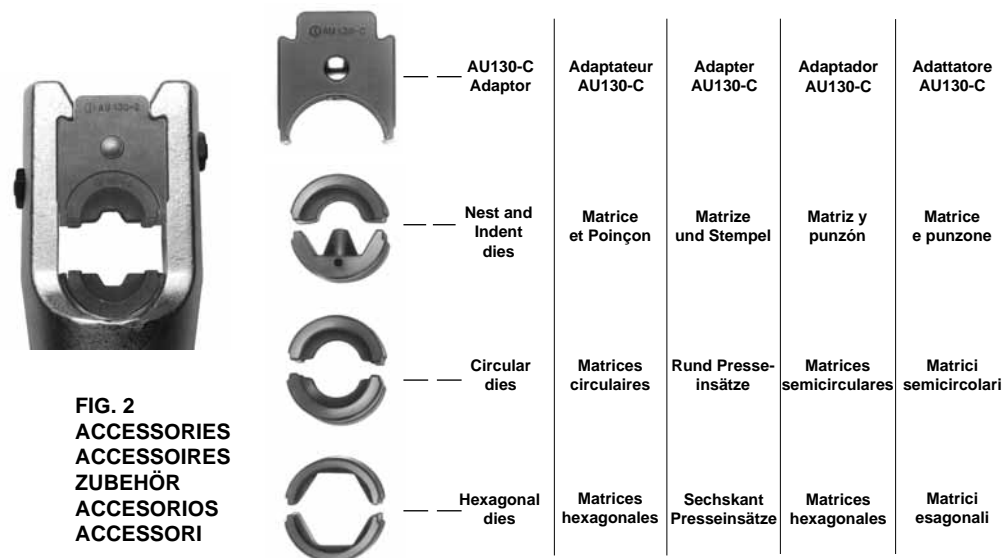

FIG. 2
* The HT131-UC tool is the HT131-U tool fitted with adaptor AU130-C. (Ref. to Fig. 2).
4. CRIMPING OF CONNECTORS ON COPPER CABLES (Ref. to Fig. 2 and 3)